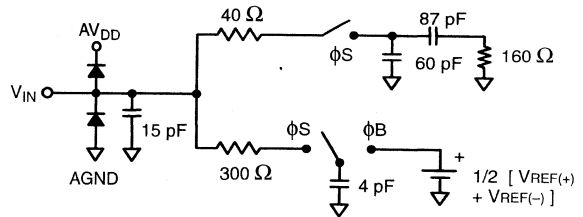

Figure 9. Analog Input Equivalent Circuit
- 3 See V_{IN} input equivalent circuit (see Figure 9).
The MP87095's performance is optimized by using analog input circuitry that is capable of driving the A_{IN} input. Figure 9. shows the equivalent circuit for A_{IN} .